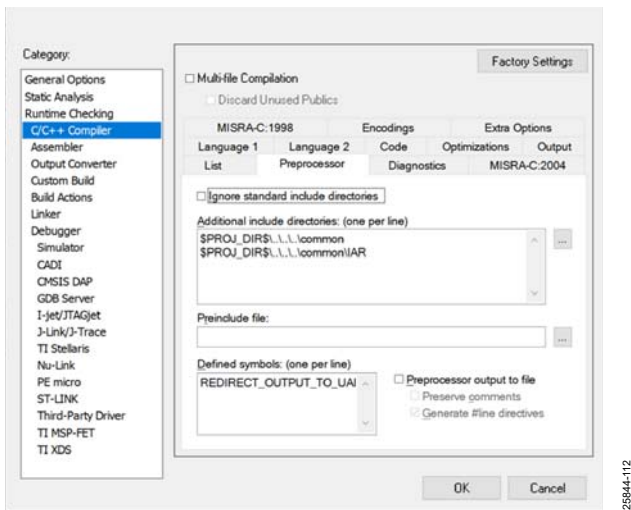

Figure 13. C/C++ Compiler Setting
- Next, click **C/C++ Compiler**, and check that the directories match those shown in the **Additional include directories** box (see Figure 13).